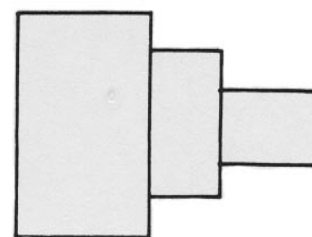

Fig.7b Component
- (b) Redraw the component, Fig. 7b, to be produced on the lathe. Illustrate using diagrams how it may be dimensioned using: